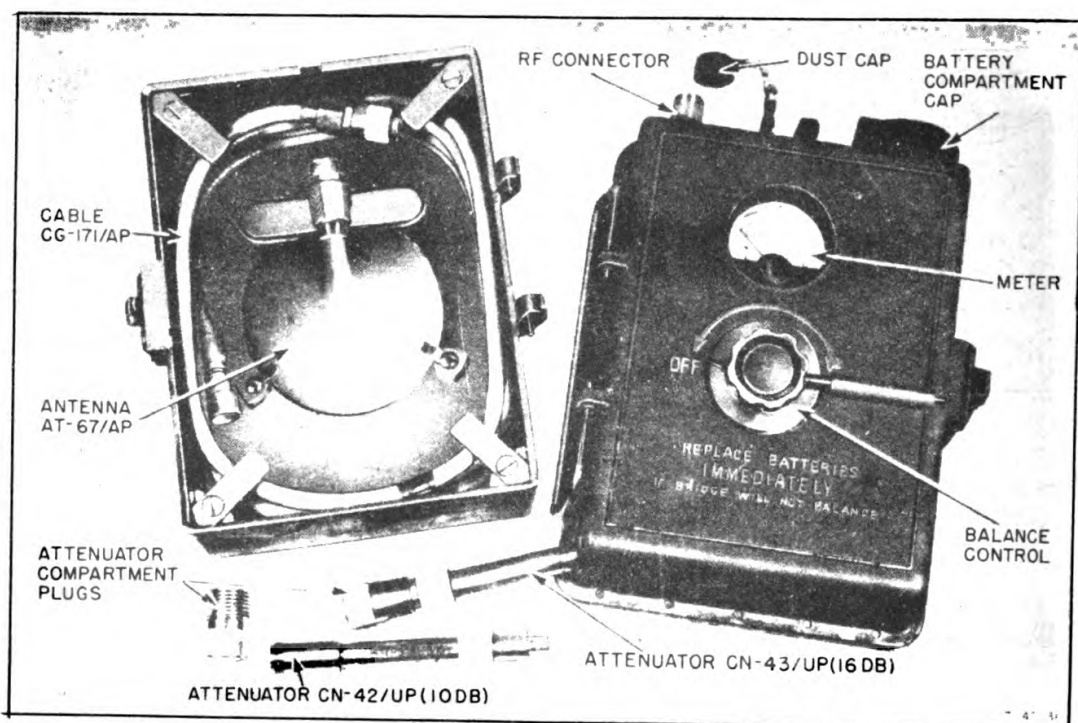

Figure 3. Power Meter TS-125/AP and associated equipment.
6. POWER METER TS-125/AP (fig. 3).